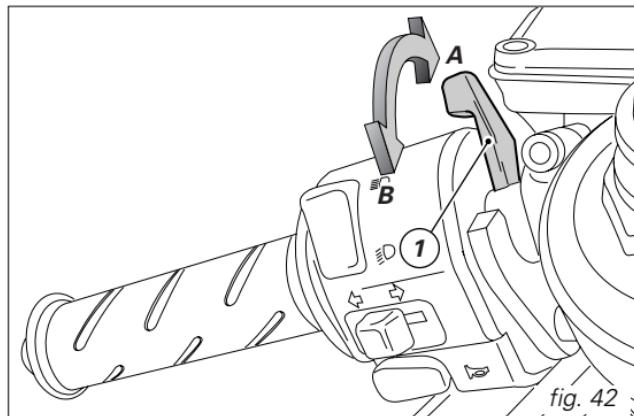

fig. 42
2) Move the cold start lever (1) to (B) (fig. 42).
4) Slowly move the cold start lever (1) to its vertical position (A) (fig. 42).
Follow the same procedure for "Regular ambient temperature", however, do not use the device (1, fig. 42).